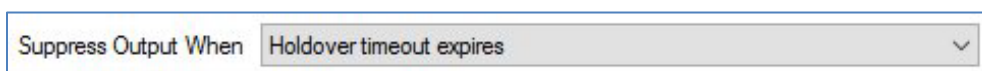

Figure 35 - Suppress Output When: Holdover timeout expires
- Selecting **“Holdover timeout expires”** will suppress the output when the clock is out of sync and the time set for Holdover timeout (set in the clock by Enable holdover timeout) also expires. Refer to Figure 35.